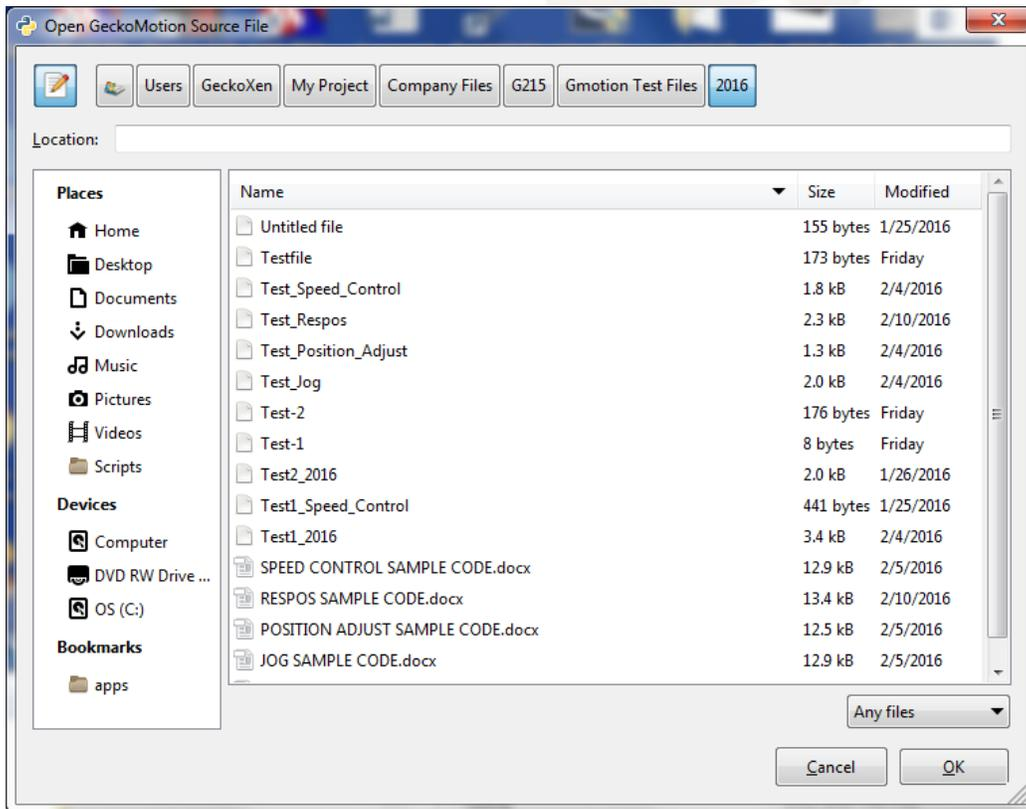

Figure 13: How to open a file.
4.4 **Reopen the file:** In the menu, click **File** and then select **Open**. This will open Open GeckoMotion Source File window (Figure 13).
- Select file type: **Any files** (see Figure 13). "Testfile" should be displayed under **Name** tab in this window.